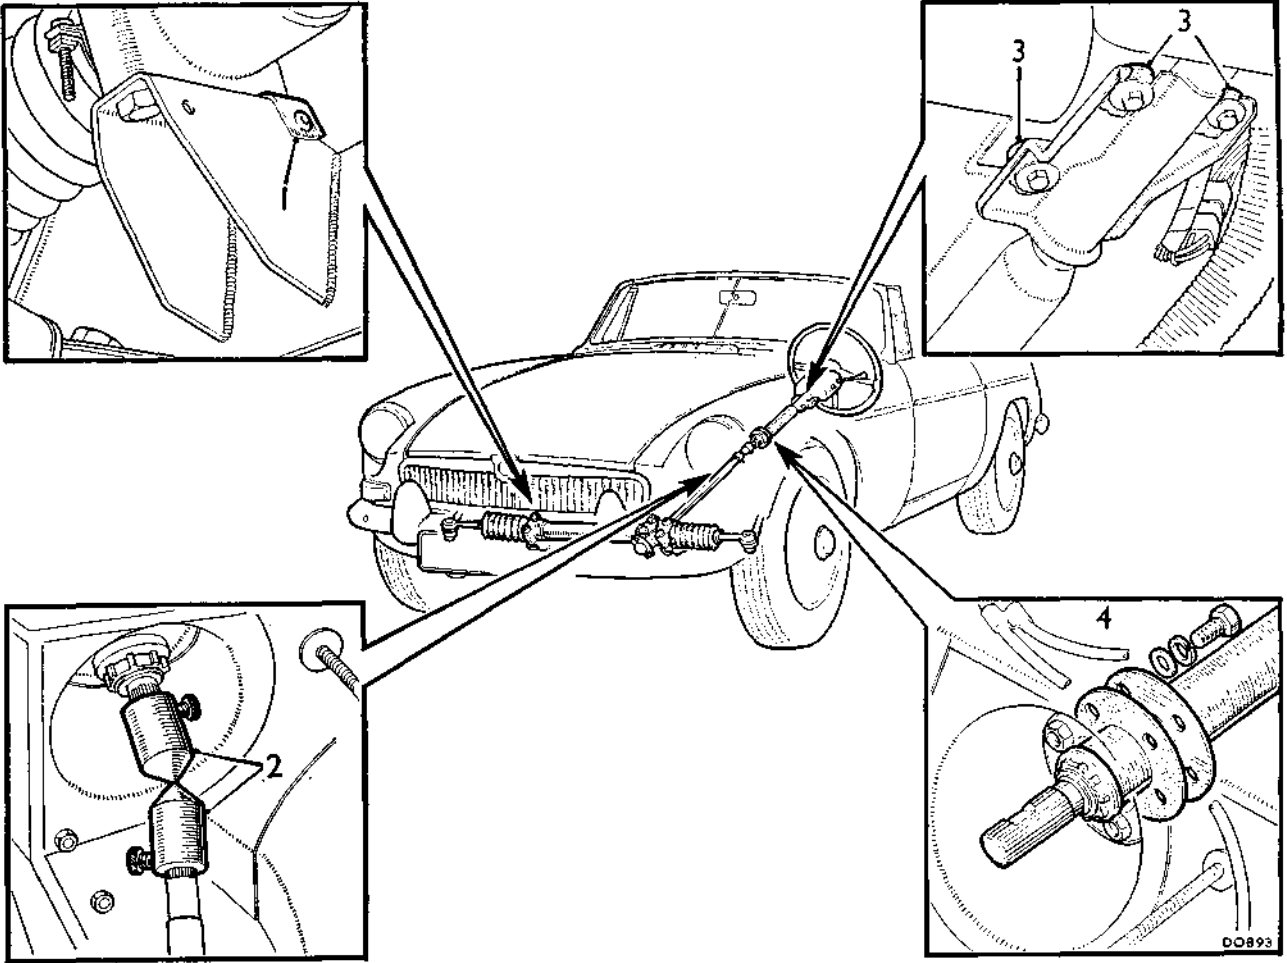

Fig. Ja.1
11. The steering-column and rack assembly are correctly aligned when the gauges meet exactly at their points (see Fig. Ja.1).